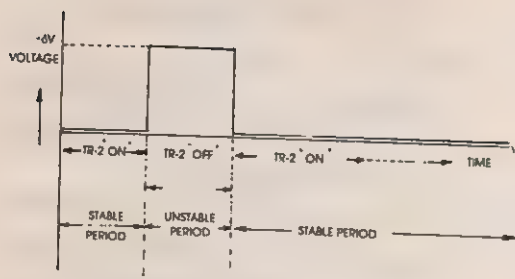

Fig. 17.2 Timing Diagram
13. The above phenomena can also be represented in a timing diagram as given in Fig. 17.2.